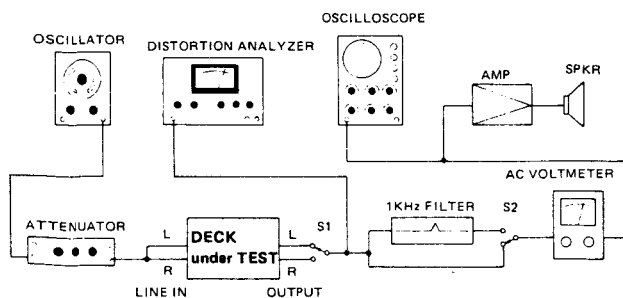
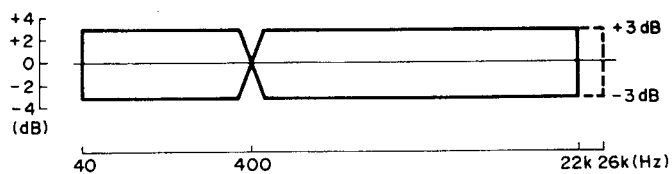
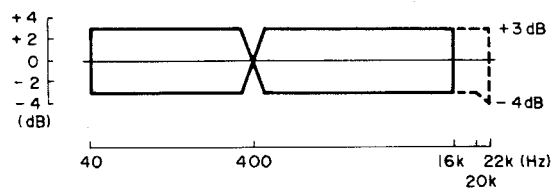

Fig. 3-1 Basic connection
Fig. 3-5 Playback frequency response (19 cm/s)
Fig. 3-8 Overall frequency response (9.5 cm/s)
| | 1-4 | Fig. 3-1 | LINE spec. input level condition | 400 Hz/-12 dB (195 mV) | R507/R607 | -5 dB (436 mV) |
| 2. VU meter | 2-1 | Fig. 3-1 | LINE spec. input level condition | R509/R609 | 0 VU on VU meter | |
| 3. MIC input level | 3-1 | Fig. 3-1, but LINE IN → MIC | 400 Hz/-70 dB ±2 dB (195 μV ~ 308 μV) | Check | -5 dB (436 mV) | MIC min. input level |
| | 3-3 | Fig. 3-1 | LINE cont. - spec. position (Item 1-2) MIC cont. - MIN | - | - | IMPORTANT: Do not disturb these cont's during later checks. |
| 5. Playback level | 5-1 | Fig. 3-1 | FWD & REV OUTPUT cont.—CAL SPEED sw.—HIGH | YTT-1003 (400 Hz/0 dB) | R501/R601 (FWD) R502/R602 (REV) | -5 dB (436 mV) Spec. PB condition |
| 6. VU meter | 6-1 | Fig. 3-1 | FWD Spec. PB condition | YTT-1003 (400 Hz/0 dB) | R508/R608 | 0 VU on VU meter |
| 7. Frequency response | 7-1 | Fig. 3-1 | FWD & REV TAPE SELEC.—LHII | SPEED-HIGH YTT-1003 | R503/R603 (FWD) R504/R604 (REV) | Fig. 3-5 |
| | 7-3 | " | FWD & REV TAPE SELEC.—EE | SPEED-HIGH YTT-1053 | Check | Fig. 3-5 |
| 10. Signal to noise ratio | 10-1 | Fig. 3-1 | FWD & REV LH and EE Spec. PB condition Use fully erased tape (Use bulk tape eraser) | YTT-8013 and YTT-8053 | Check | LHI, -II HIGH: 50 dB LOW: 49 dB EE HIGH: 52 dB LOW: 52 dB -Ratio of spec. -5 dB and noise -Change-over the polarity of the AC Line plug. The worse reading should be within spec. |
| | 11-2 | Fig. 3-1 | Rec-pause mode MONITOR sw.—TAPE OUTPUT cont.—CAL | Check | Min. reading —45 dB or more (4.36 mV or less) | | |
| 13. Record bias | 13-1 | Fig. 3-1 | FWD & REV Test tape— SPEED YTT-8053 sw.—LOW TAPE SELEC- MONITOR TOR—EE sw.—TAPE | 7 kHz/—22 dB (61.5 mV) | R516/R616 (FWD) R515/R615 (REV) | Over-bias value 3 dB \pm 1 dB (from peak) | Simultaneous monitoring First set adjustor fully CCW (↺), then adjust. |
| 14. Record level | 14-1 | Fig. 3-1 | Same as 13-2 SPEED sw.—HIGH | 400 Hz/—12 dB (195 mV) | R514/R614 (FWD) R513/R613 (REV) | —5 dB (436 mV) | Spec. REC condition |
| 15. Distortion | 15-1 | Fig. 3-1 | Same as 13-1 and 13-2, but SPEED sw.—HIGH | 1 kHz/—12 dB (195 mV) | Check | 0.8% or less (W/LHII, EE) | |
| 16. Signal to noise ratio | 16-1 | Fig. 3-1 | FWD & REV MONITOR sw.—TAPE HIGH & LOW LHII; YTT-8013 EE: YTT-8053 | 1 kHz/—12 dB (195 mV) then No signal recording | Check | LHII HIGH: 48 dB LOW: 46 dB EE HIGH: 50 dB LOW: 50 dB | Ratio of spec. —5 dB to noise. |
| 17. Erase efficiency | 17-1 | Fig. 3-1 switch on 1 kHz filter | FWD & REV TAPE SELEC.—EE MONITOR sw.—TAPE SPEED sw.—HIGH YTT-8053 (EE) | 1 kHz/—2 dB (615 mV) (+10 dB) then erasing | Check | OUTPUT: —63 dB or more (548 μ V or less) (68 dB min. ratio) | -Reference output level: +5 dB -The worst values should be within spec. |
| 18. REC MUTE function | 18-1 | Fig. 3-1 switch on 1 kHz filter | FWD & REV Spec. REC condition rec-mute mode | 1 kHz/—2 dB (615 mV) (+10 dB) then record muting | Check | OUTPUT: —60 dB or more (0.775 mV or less) (65 dB min. ratio) | -Reference output level: +5 dB -The worst values should be within spec. |
| 19. Frequency response | 19-1 | Fig. 3-1 | FWD & REV MONI- TOR sw. -TAPE TAPE SELEC. -EE Test tape -YTT- 8053 | Required signal -32 dB (19.5 mV) | L103/L203 (FWD) L104/L204 (REV) | Fig. 3-8 | Also it is possible to fine-adjust by the record bias adjustors (See item 13.) if this respective specified record bias setting ranges are kept. |
| | 19-3 | " | TAPE SPEED- SELEC. LOW -LHII Test tape -YTT- 8013 | " | " | Fig. 3-8 | |
| 21. LHI position check | 21-1 | Fig. 3-1 | FWD & REV Spec. REC condition Test tape- YTT-8013 SPEED sw.- HIGH | 20 kHz/-32 dB (19.5 mV) | Check | When TAPE SELECTOR sw is changed LHII → LHI, output level should raise +3 dB ± 1 dB | |
| 22. Adjacent track crosstalk | 22-1 | Fig. 3-1 | FWD record. Spec. REC condition SPEED sw.- HIGH TAPE SELECTOR sw.-LHII | 125 Hz/-12 dB (195 mV) | - | - | For FWD record. |
| 23. Channel separation | 23-1 | Fig. 3-1 switch on 1 kHz filter | Same as 22-1 | L: 1 kHz/-12 dB (195 mV) R: No signal record. | Check | R, -55 dB or more (1.38 mV or less) (50 dB min. ratio) | For WED record. |
| 25. Decoder level | 25-1 | Fig. 3-1 | Tape—YTT-8013 DBX sw—OUT SPEED—19cm/s REC MODE—ON TAPE sw—LH-II MONITOR—TAPE | 1kHz/−12dB (195mV) | Check | Note the measured output as reference. | |
| 26. Frequency response | 26-1 | Fig. 3-1 | Same as 19-1 ~ 19-4, but DBX sw—IN EE YTT-8053 } only | Required signal, −32dB (19.5mV) | Check | 19cm/s: 40Hz ~ 20kHz +5, −4dB (Ref.: 400Hz) 9.5cm/s: 40Hz ~ 16kHz +5, −4dB (Ref.: 400Hz) | |
| 27. Signal to noise ratio | 27-1 | Fig. 3-1 | DBX sw—IN REC MODE sw—ON MONITOR—TAPE { LH-II { YTT-8013 { EE { YTT-8053 | 1kHz/−12dB (195mV) then No signal recording | Check | 65dB min. ratio (w/LH-II, EE at all tape speeds) | Ratio of spec. −5dB to noise |
| 28. Distortion | 28-1 | Fig. 3-1 | Same as 27-1 | 1kHz/−12dB (195mV) | Check | 0.8% or less (w/LH-II, EE) | 0VU input level |